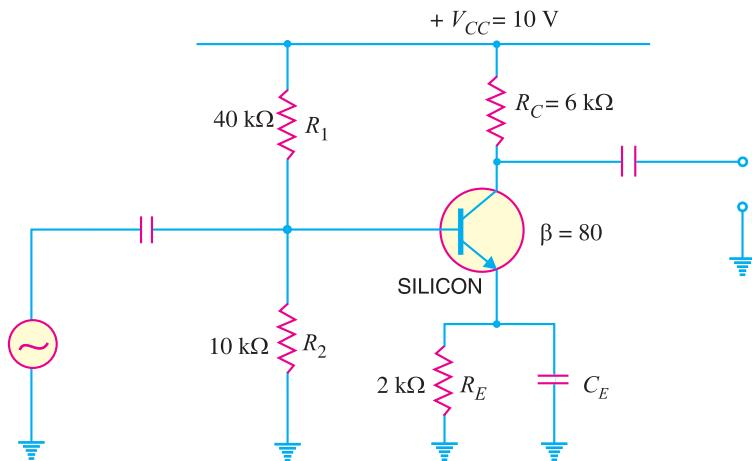

Fig. 10.24
**Example 10.13.** Determine the ac emitter resistance for the transistor circuit shown in Fig. 10.24.